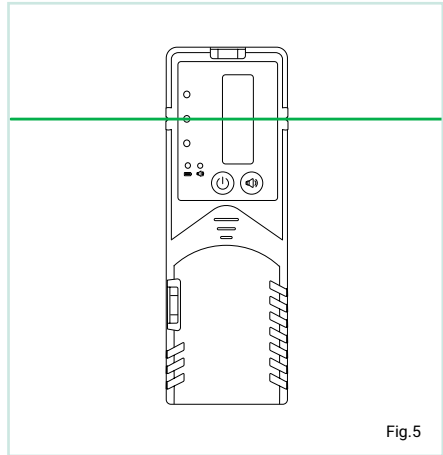
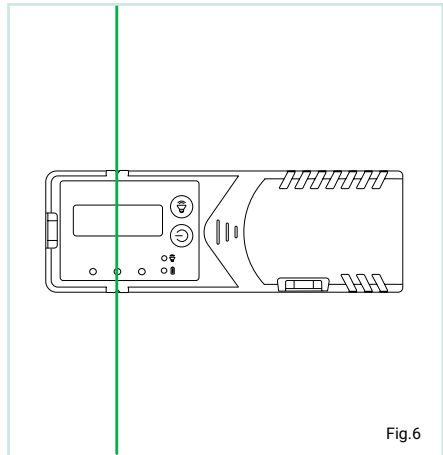

Fig.5
Fig.6
- Attach the laser level to the mount using the thumb screw (Fig. 6).
- Hold the detector upright for horizontal beams (Fig. 5). Rotate the detector 90° for vertical beams (Fig. 6).